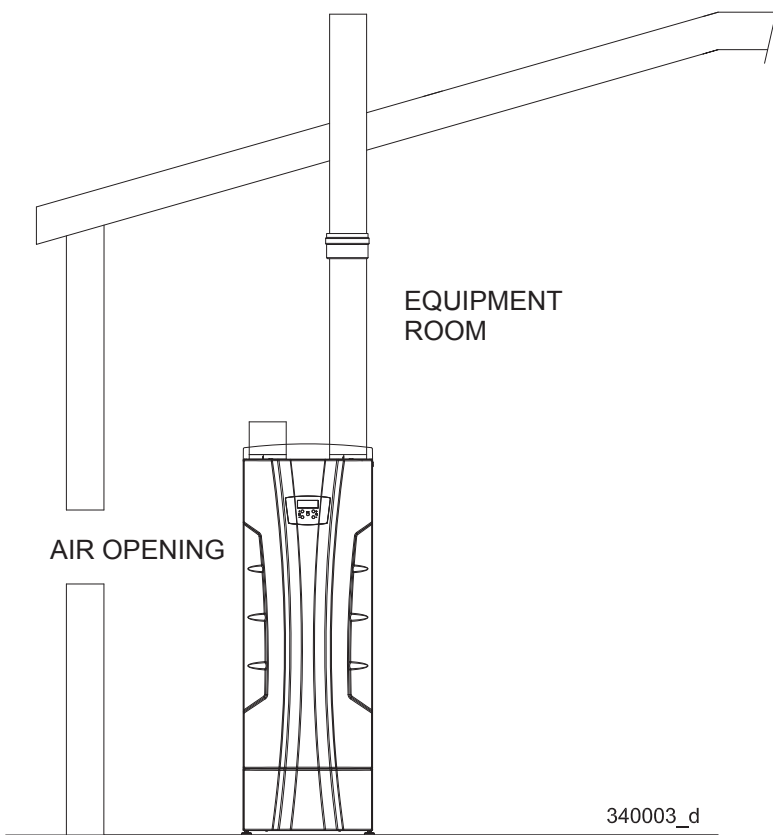

Figure 5-3 Combustion Air from outside - single opening
3. If a single combustion air opening is provided to bring combustion air in directly from the outdoors, the opening must be sized based on a minimum free area of one square inch per 3000 Btu/hr (7 cm² per kW). This opening must be located within 12" (30cm) of the top of the enclosure (see Fig.5-3).